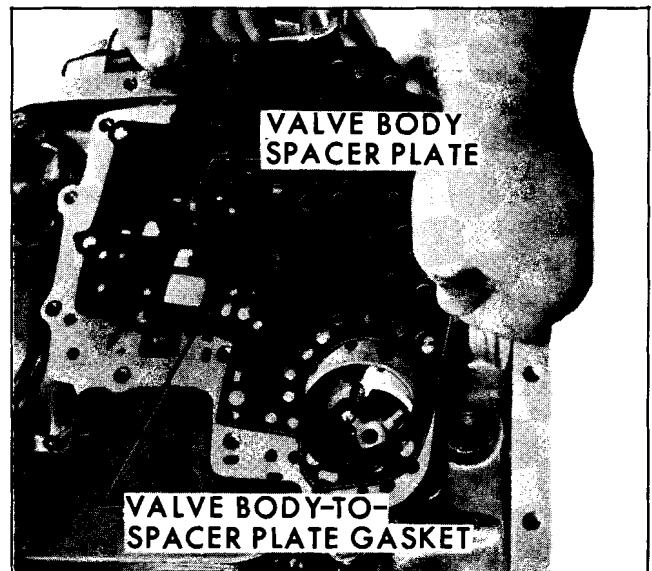

Fig. 7G-161 Installing Spacer Plate Gasket
10. Install four (4) check balls in case face (Fig. 7G-160).